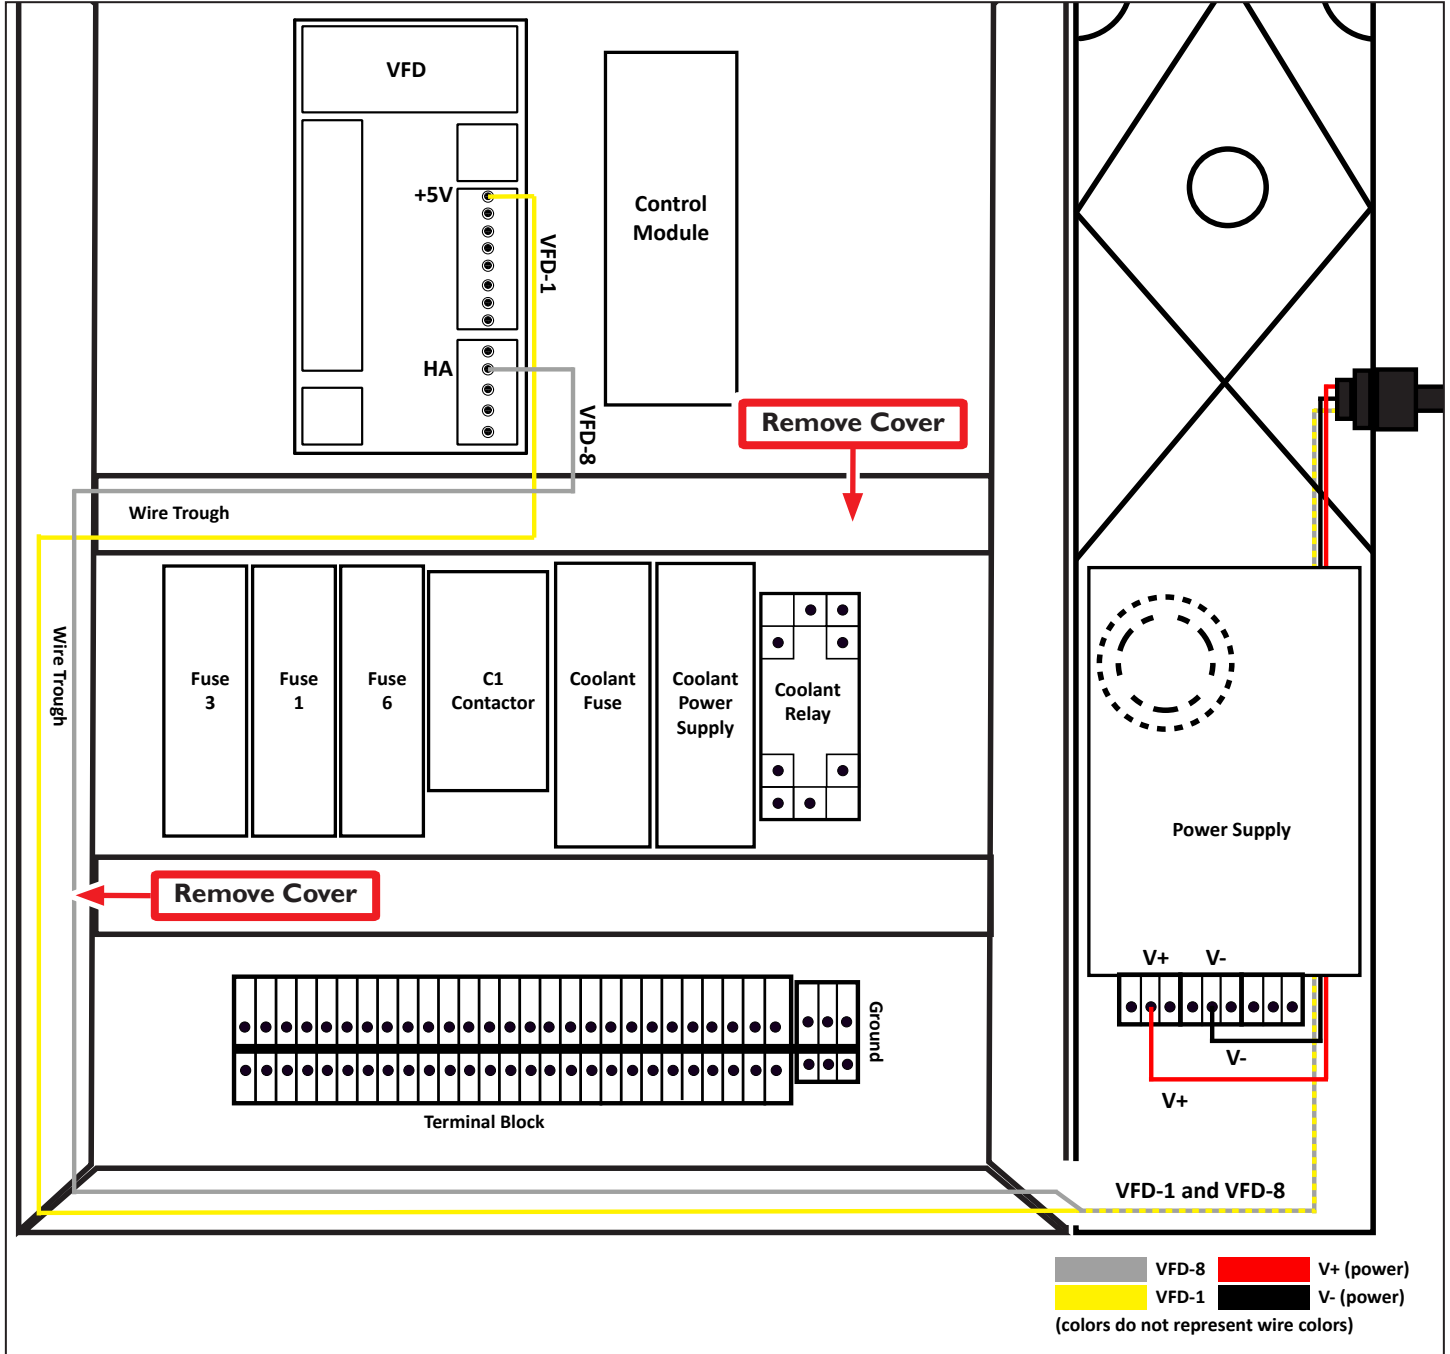

Figure 17
An illustration of ATC wire routing is shown in **Figure 17**. The following steps detail the connections shown below.
1. Put wire V+ and V- (red and black power wires) through the Z-column toward the power supply (see **Figure 17**).
2. On the power supply, use a Phillips screwdriver to make the following power connections (see **Figure 17**):
3. Put wire VFD-1 and VFD-8 (yellow and white spindle wires) through the access hole in the bottom of the Z-column toward the electrical cabinet (see **Figure 17**).
4. From the electrical cabinet, remove two wire trough covers as shown in **Figure 17**.
5. Put wire VFD-1 and VFD-8 (yellow and white spindle wires) through the wire troughs together toward the variable frequency drive (VFD) as shown in **Figure 17**.
6. On the VFD, use a small, flat-head screwdriver to make the following spindle connections (see **Figure 17**):
- Insert wire VFD-8 (white) to pin 2 of the lower connector (HA)